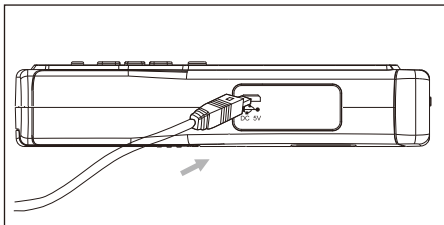

Figure 9
- 4) Insert one end of the USB transmission line into the USB interface on the top of the anemometer host, as shown in the figure9: